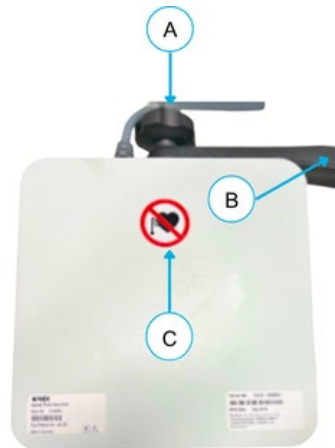

Figure 10-23: Field Generator Orientation
1. Attach Field Generator to Field Generator Arm (B) using black knob (A) (**Figure 10-23**).
- Twist knob (B) until the Field Generator is securely connected to the Field Generator Arm
■ **NOTE:** Ensure Heart symbol (C) on the Field Generator top faces upwards.